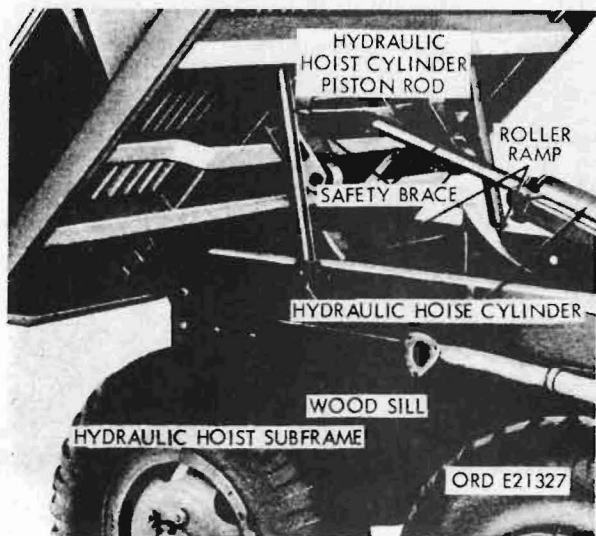

Figure 58. Safety braces
- (3) Safety braces (fig. 58). The safety braces, attached to the sides of the subframe, are raised to secure the dump body in the up position for maintenance.